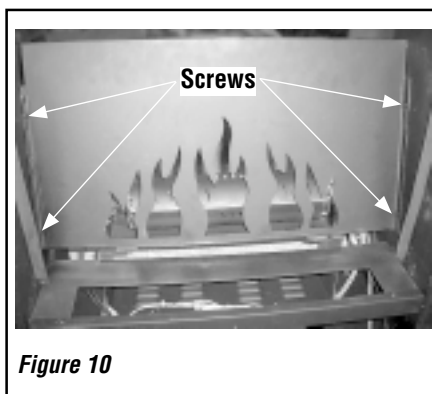

Figure 10
5. Remove screws and loosen and pull up and away the flame board (see **Figure 10**).